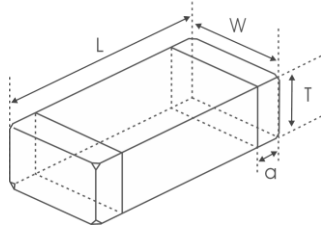

Fig. 4-1
- 1) Dimensions: See Fig.4-1 and Table 4-1.